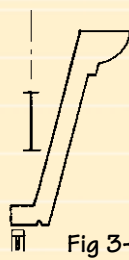

Fig. 3-2A
- Made to look contemporary (as in Figs. 3-2A, 3-2B and 3-2C).